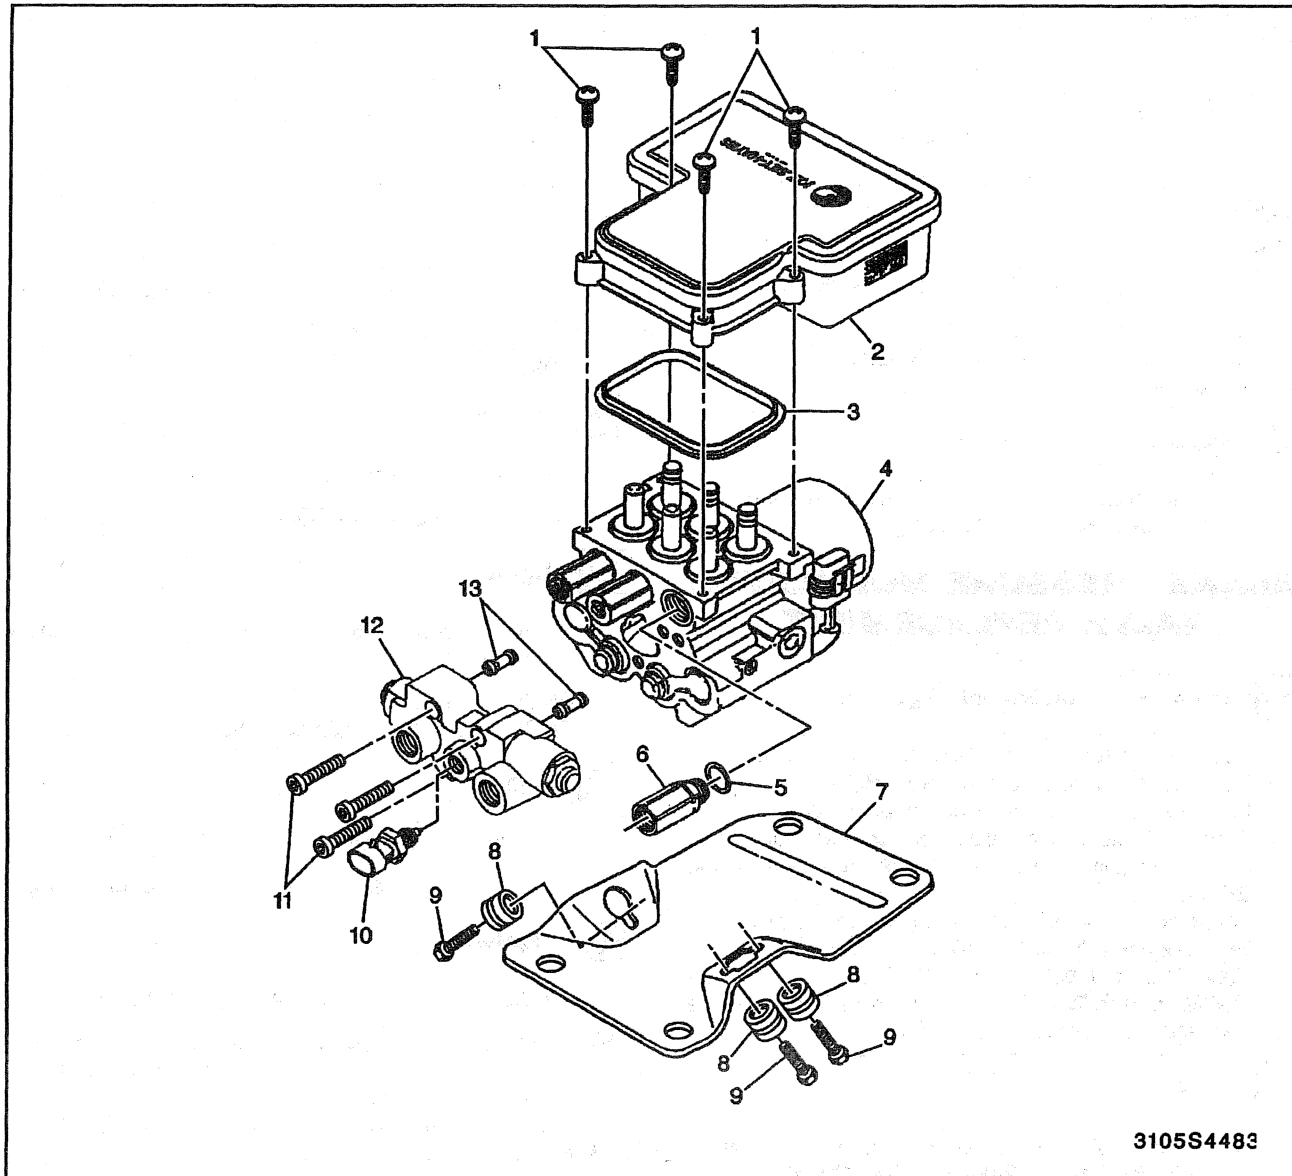

Figure 12—Electro-Hydraulic Control Unit (EHC) Component Views
**Remove or Disconnect (Figure 12)**
**Install or Connect (Figure 12)**